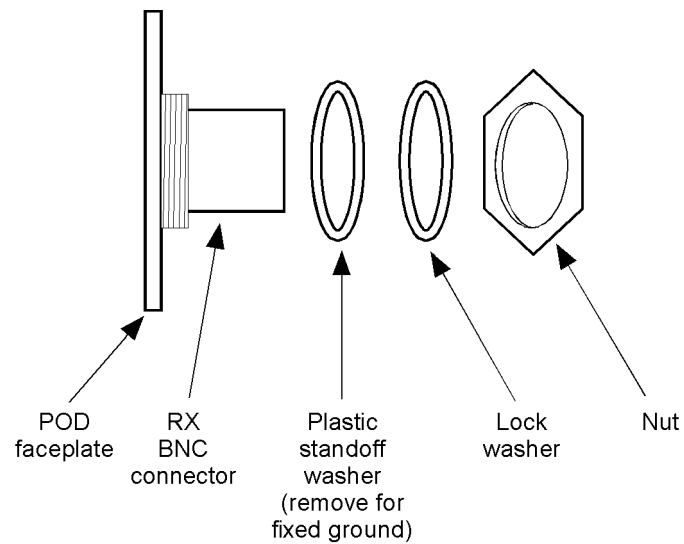

Figure A-6. RX BNC Connector
1. Remove the metal nut and lock washer on the RX BNC connector (shown in **Figure A-6**).